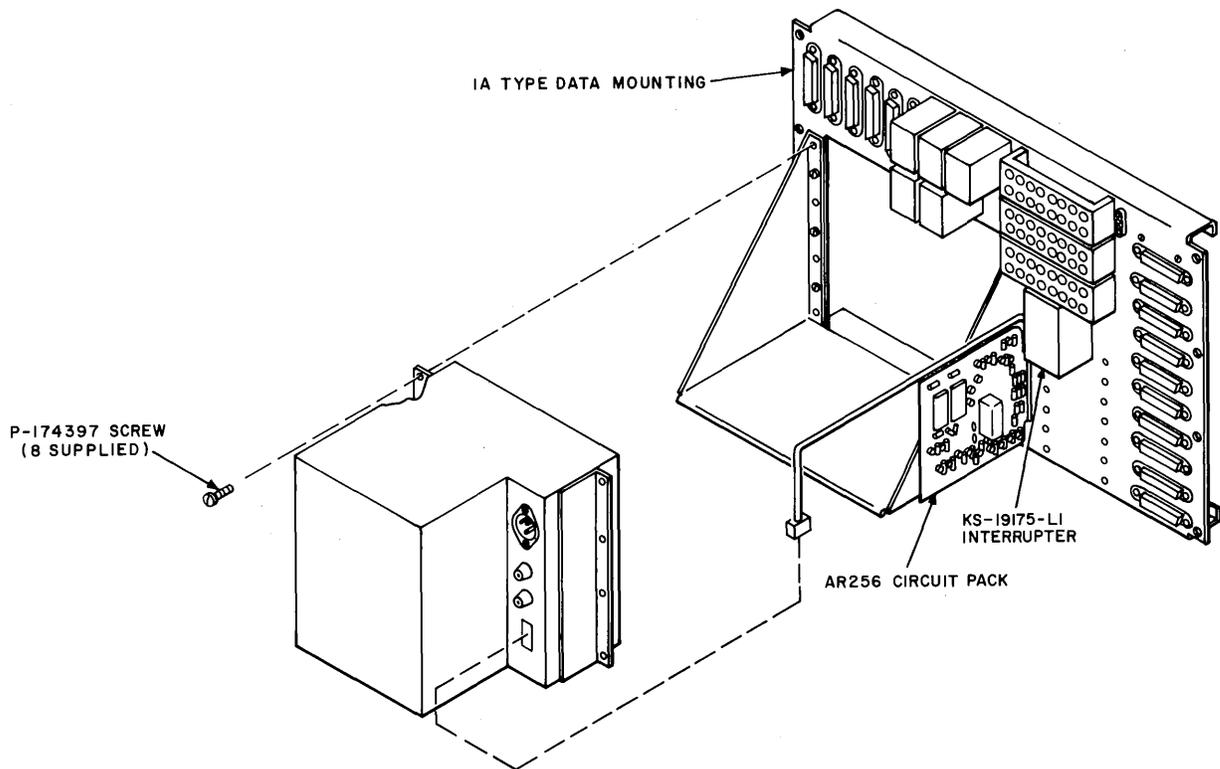

Fig. 2—Detail for Mounting 31A Power Unit
- (1) Disconnect the 117 volts ac input power cord (P-40J328) from 31A power unit.
- (2) Unplug output power plug from 1A1 Data Mounting.
- (3) Remove mounting screws (eight) as shown in Fig. 2.
- (4) Install new 31A power unit, reversing Steps 1 through 3.